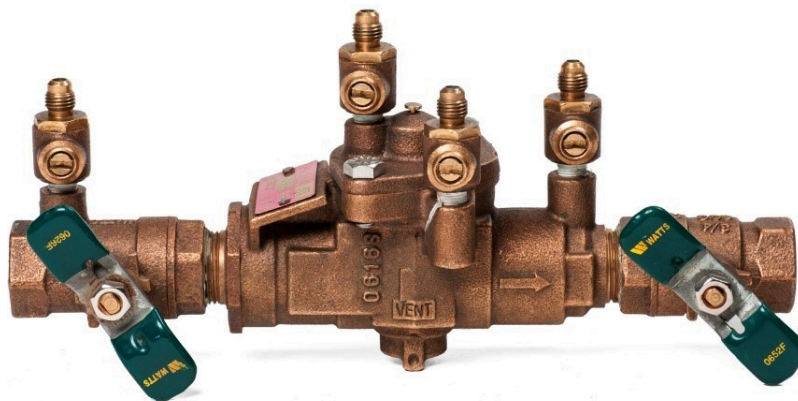

Figure 16 Reduced pressure backflow assembly (RPBA)
Any time that potable water is connected to a liquid non-potable system, even with a pipe or tank wall between the two, there is a hazard of the mixing of potable and non-potable fluids through a break in the wall. Most plumbing jurisdictions in Canada are acutely aware of cross connection control regulations and standards, and have strict requirements that must be met. In areas within British Columbia that have cross connection control programs in place, the procedures for installing and testing backflow preventers as laid out by BCWWA (BC Water and Waste Association) apply. Otherwise, the enforceable regulations found in the BC Plumbing Code and/or National Plumbing Code of Canada or local bylaws must be followed. Always check with the governing Authority Having Jurisdiction for any cross connection control requirements before planning a solar thermal installation. When in doubt, the installation of an RPBA (reduced pressure backflow assembly) to protect the potable water system is never a bad choice (see Figure 16 below).
- Figure 16 Reduced pressure backflow assembly (RPBA) © [Caleffi Hydronic Solutions \(https://www.caleffi.com/usa/en-us\)](https://www.caleffi.com/usa/en-us). Used with permission.